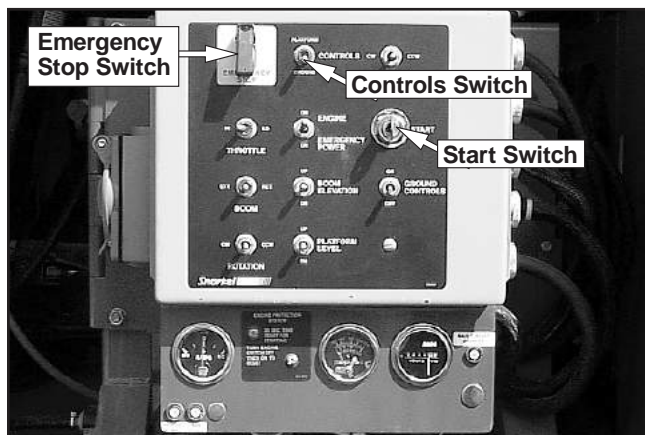

Figure 8.2—Lower Controls
3. Place the emergency stop switch (refer to Figure 8.2) in the on position and place the controls switch in the ground position.